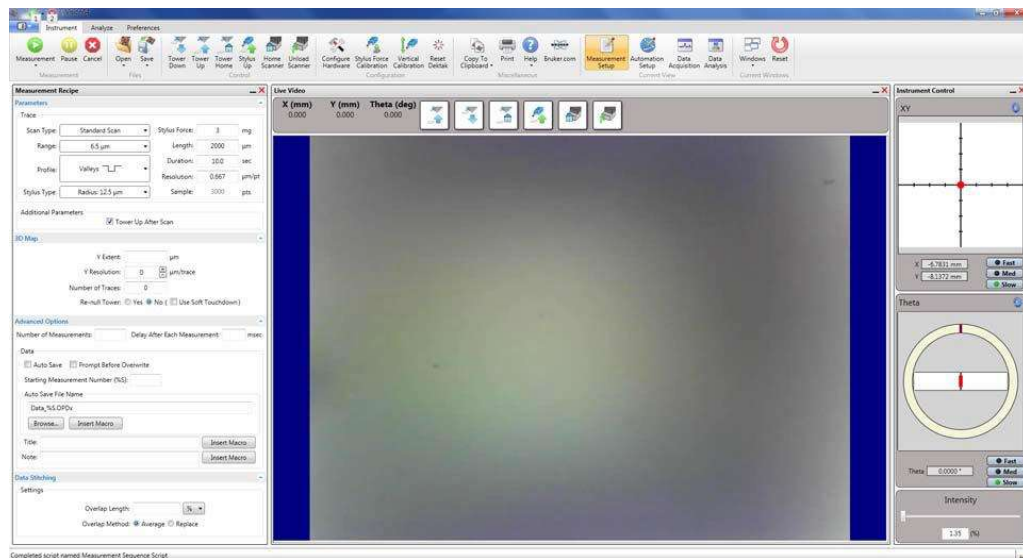

Figure 2: Vision64 Instrument Tab, Including the Live Video Display
- The Vision64 Welcome screen appears, followed by the Vision64 Instrument tab, which includes the DektakXT Live Video Display (see Figure 2).